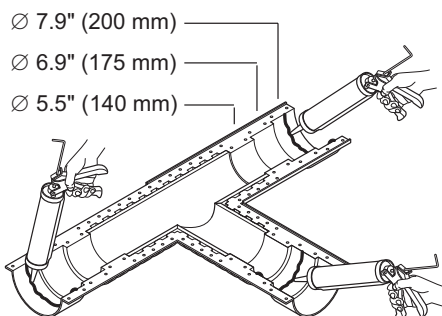

Figure 4-67: Apply sealant
7. Apply sealant compound in the bottom of the insulation shell. **Figure 4-67** illustrates a Tee-connection.